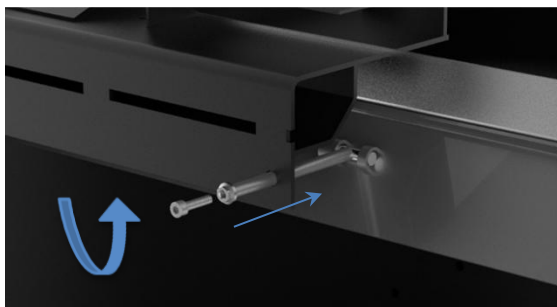

Figure 17 – Smoke flap regulation
* Note: if the installation has a poor draft, it is possible to adjust the flap stop in order to facilitate the passage of smoke through the chimney, Figure 17. This operation must be carried out by a specialised technician.